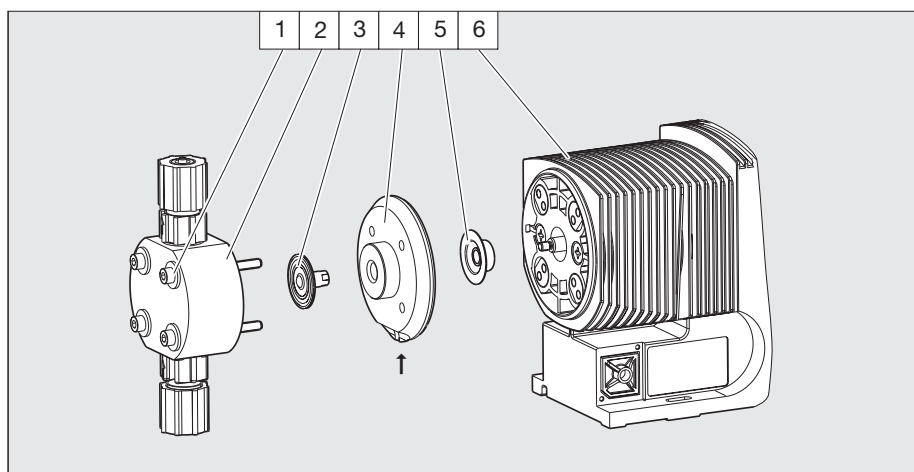

Fig. 11
- Pump diaphragms (see Fig. 11 and 12 )
- **The leakage bore must face downwards when the pump is subsequently installed (See Fig. 11, arrow)**
- **Place the head washer (4) in exactly in the right position on the pump housing (6). Do not twist the head washer (4) on the pump housing (6), this will cause the safety diaphragm (5) to distort.**
- ▶ Insert the diaphragm (3) into the head washer (4).
- ▶ Hold tightly onto the head washer (4) and screw the diaphragm (3) clockwise until it is sitting firmly (you will feel the return spring resistance).